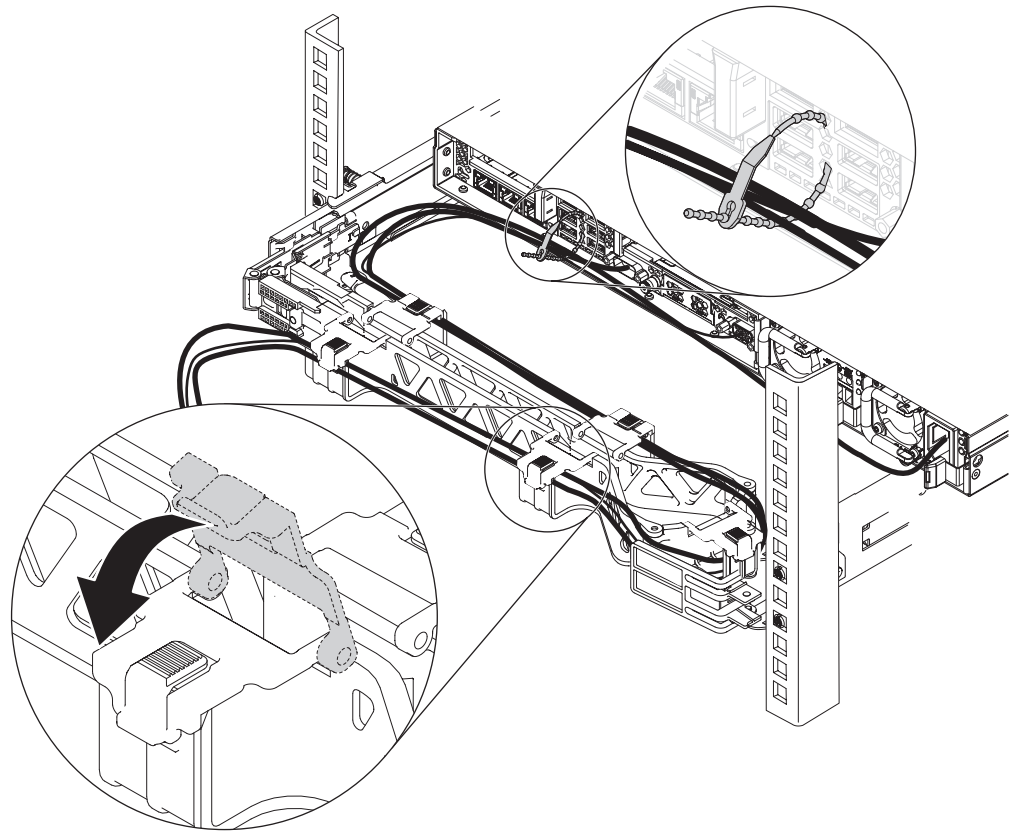

Figure 38. Connecting and routing the cables
8. Connect and route the cables as shown in Figure 38 on page 47.